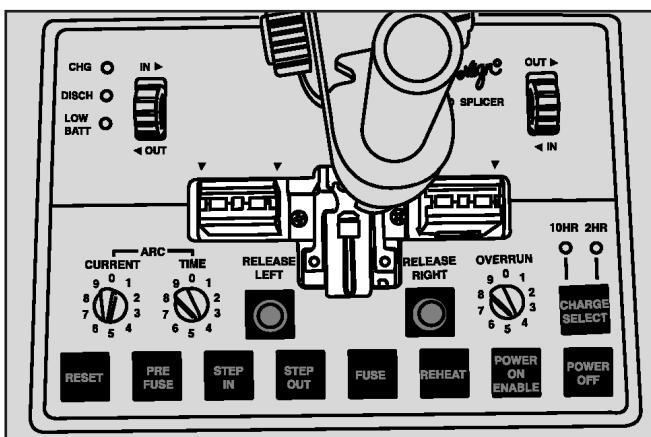

Figure 16
- Splice the two prepared fibers together using tools and equipment as per company practices. Once the splice has tested acceptable, centrally position the splice protector over the fiber splice and shrink in position as per company practices. (Figure 16)